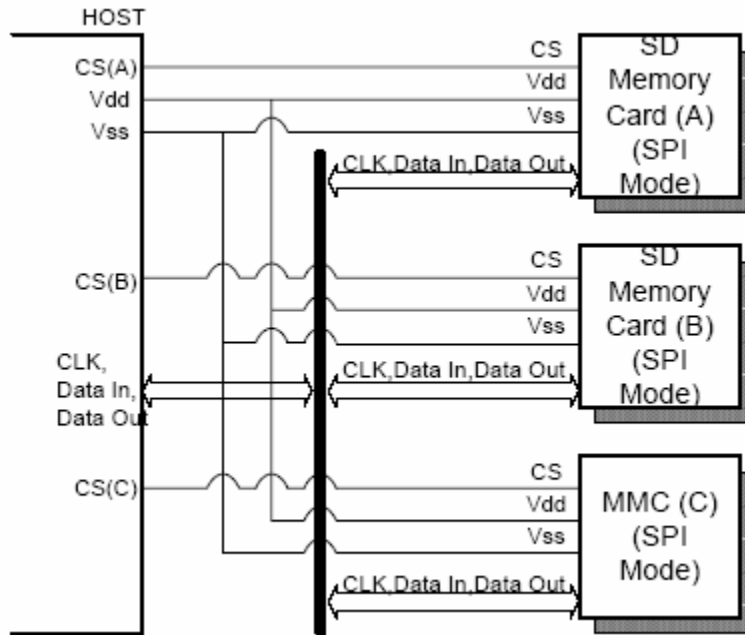

Fig 4 - SD Card (SPI Mode) Connection Diagram
- Fig 4 - microSD Card (SPI Mode) Connection Diagram